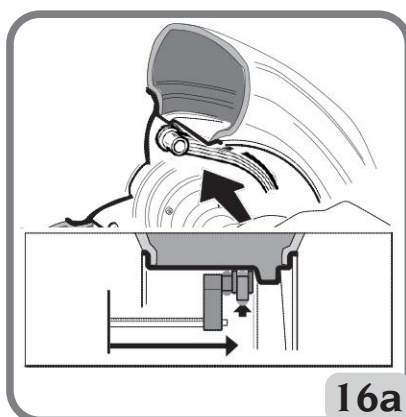

Fig.16a: Manual acquisition of the distance of the external plane in the Program Types
- move the end of the automatic measuring arm to the plane selected for applying the outer weight (Fig. 16a), following the same procedure described previously for the inner side.